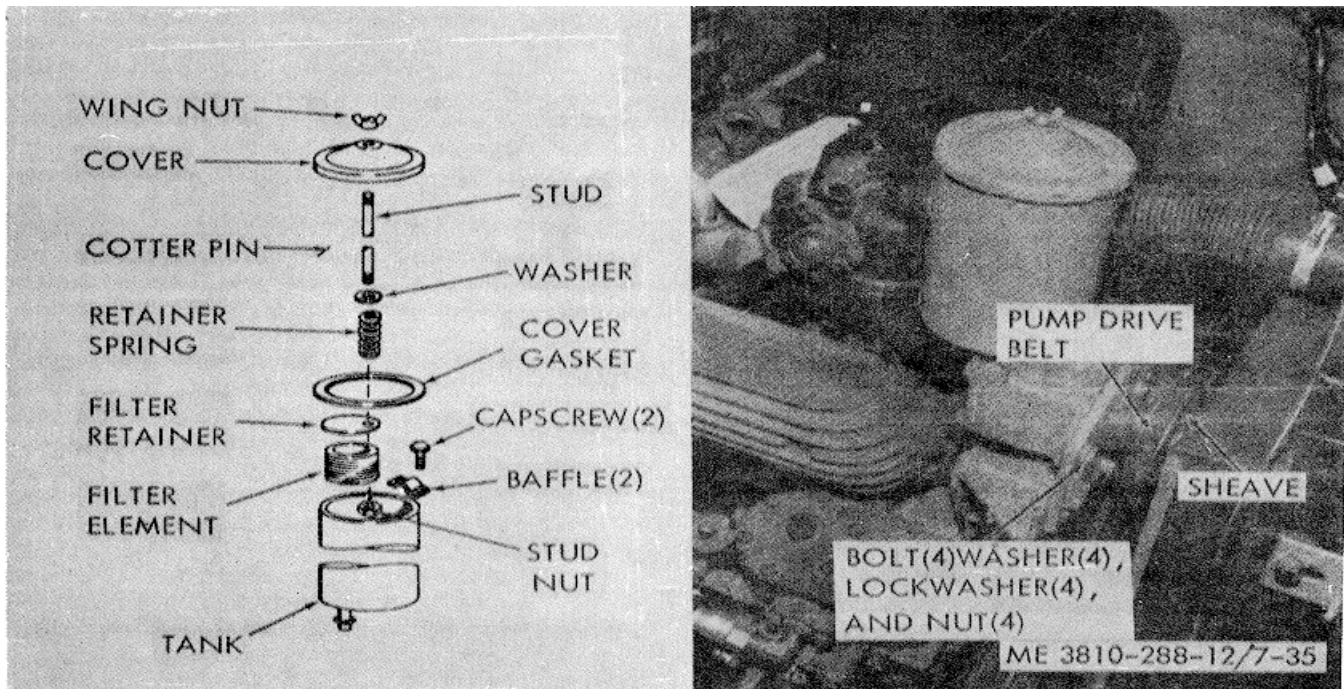
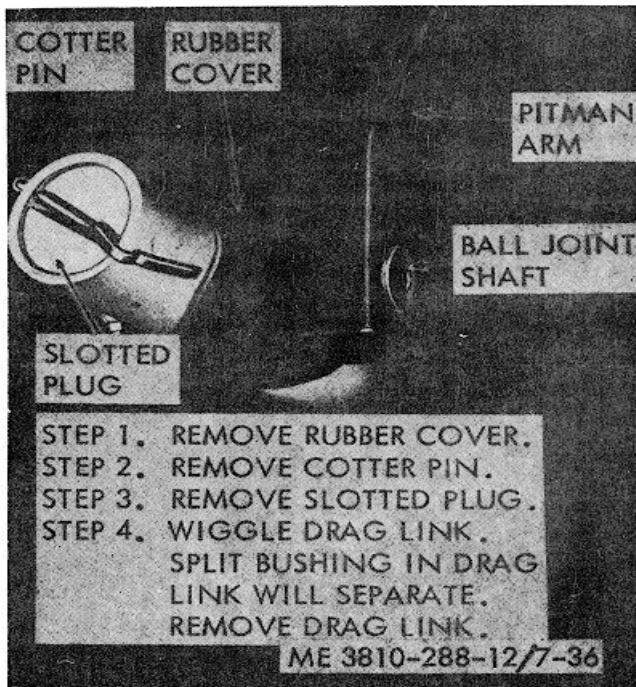

Figure 7-35. Power steering pump, service and replacement..
Figure 7-36. Drag link, removal and replacement.
a. *General.* The power steering system (fig. 5-3) consists of a vane type hydraulic steering pump which contains a fluid reservoir (fig. 7-35), the steering gear proper (fig. 7-33), which contains a hydraulic control valve and a power cylinder, and a mechanical means of steering control. The operator is able to steer the machine even if hydraulic power is lost, although additional effort will be required. Mechanical power from the steering gear is transmitted through the drag link (fig. 7-36) to the steering arms at each front wheel.
- (1) *Removal.* Remove the power steering pump and reservoir and the pump drive belt as follows:
- (d) Refer to figure 7-35, remove the attaching bolts, nuts, and lockwashers, and remove
- (4) Reservoir replacement. To replace the reservoir only, refer to the exploded view of the reservoir in figure 7-35. Replace the reservoir as follows:
- (d) Install a new reservoir as shown in figure 7-35.
- (1) Removal. Refer to figure 7-36 and re-move the drag link.
(2) Installation. Refer to figure 7-36 and install the drag link. When tightening slotted plug, tighten the plug until it is snug. Then, back off until the slot lines up with the cotter pin. Install the cotter pin. Connections at the steering arm end of the drag link are the same.